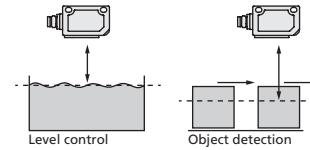

Fig. 4: Set the switching point for different directions of movement of the object
- If the object to be scanned moves into the detection area from the side, the »Set switching point +8 % – method B« Teach-in procedure should be used. In this way the switching distance is set 8 % further than the actual measured distance to the object. This ensures a reliable switching distance even if the height of the objects varies slightly, see Fig. 4.